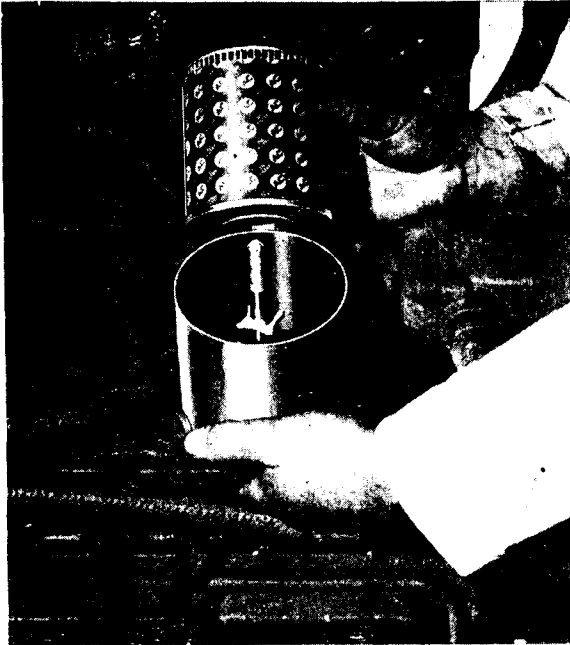

Fig. K.7.
3. Remove element and discard (see Fig. K.7).